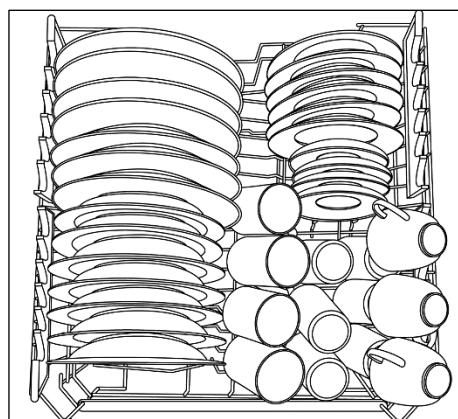

Figure 1
- The inlet hose must be connected to a tap so that the water supply can be cut off when the machine is not in use (fig. 1 B).
- Hold the basket on both sides and lift it upwards (fig. 1).
- Hold the basket on both sides and lift it gently upwards (fig. 1);
A standard daily load is represented in fig. 1
- To remove the filter unit, simply turn the handle anticlockwise (fig. 1).